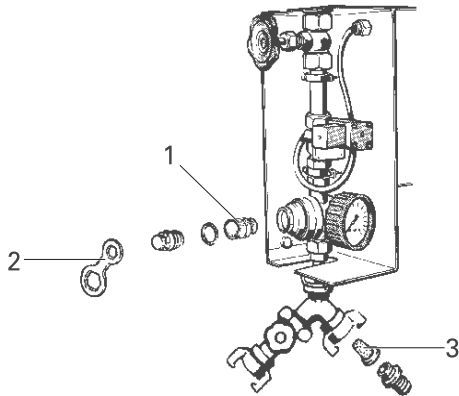

Fig. 16: Filter cleaning
The filters in the water fitting must be cleaned every 4 to 6 weeks. These filters are located in the water inlet (fig. 16, 3) and in the pressure reducer (fig. 16, 1).
- Remove filters with special key (fig. 16, 2)